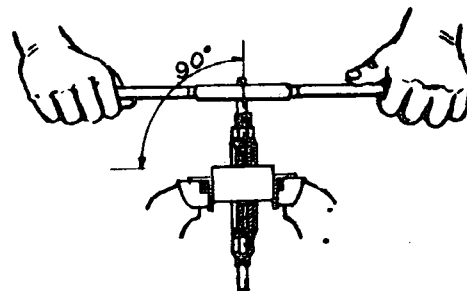

Fig. 3
- c) Place the reamer in the hole. The axis of the reamer should be perpendicular (Fig. 3).